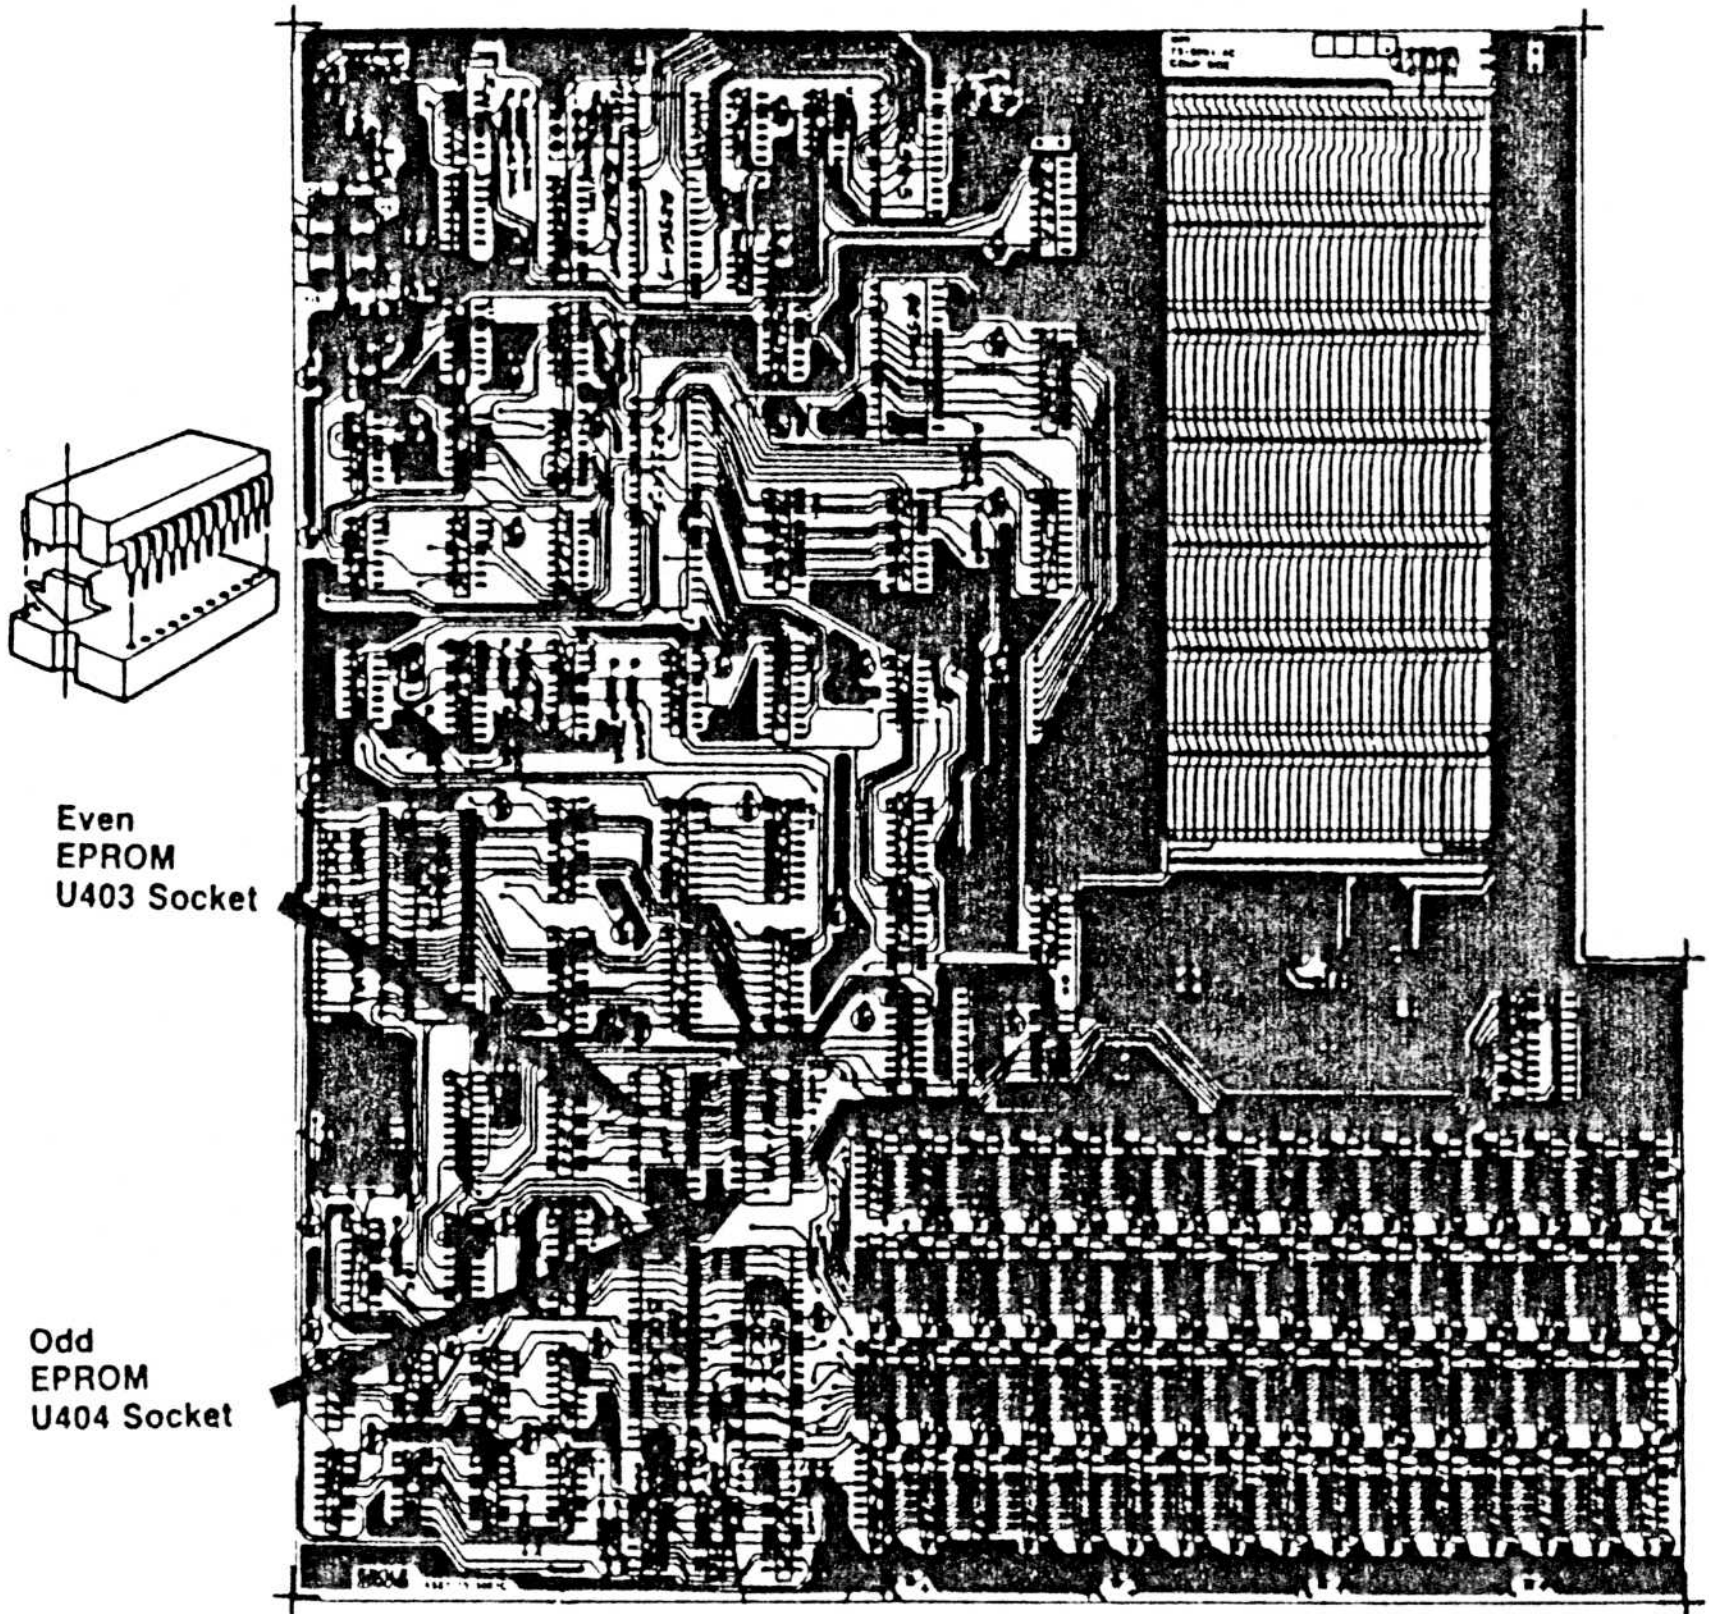

FIGURE 15: 1600 MAIN BOARD
- STEP 9** Take out the existing EPROM's in the large sockets labeled U403 and U404. Keep the EPROM's in case your new EPROM's do not function properly. *Do not touch any of the wires or devices on the board.* Refer to Figure 15.
- STEP 11** Insert the new EPROM's into the large sockets labeled ~~U403, U404~~ ~~U403, U404~~ U403, U404. Be sure the half circle notch on one end of each EPROM is directly over the half circle notch in the receiving sockets. Make sure all the pins on each EPROM enter the holes in the sockets. Gently push each EPROM until it snaps into place. *Do not touch any of the wires or devices on the board.* Refer to Figure 15.